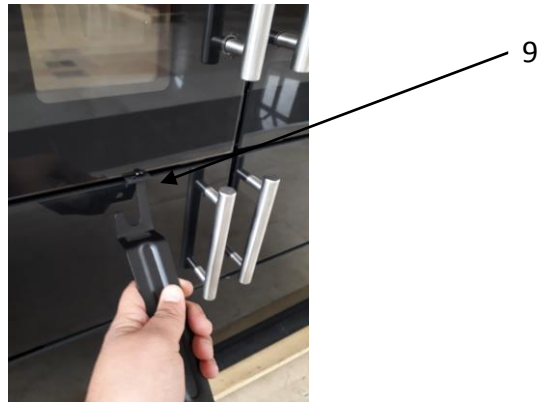

Figure 3
We make air control with a special key over the slide shutter handle as shown in Figure 3 item 9.
The slide shutter handle on the ashtray support (Figure 3, item 9), shows the direction of the opening and closing of the slide shutter. For igniting, the slide shutter handle should be opened to the maximum.
- * Open the slide shutter handle for primary air at the greatest air release (Figure 3, item 9)